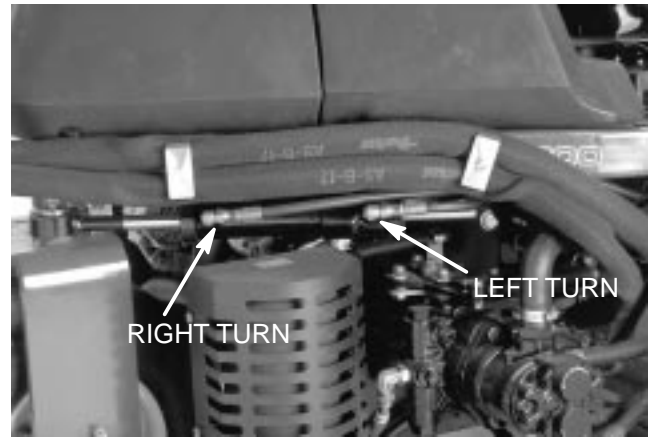

Figure 10
- C. Remove a hose from one of the steering cylinder fittings. Plug the end of the hose (Fig. 10).